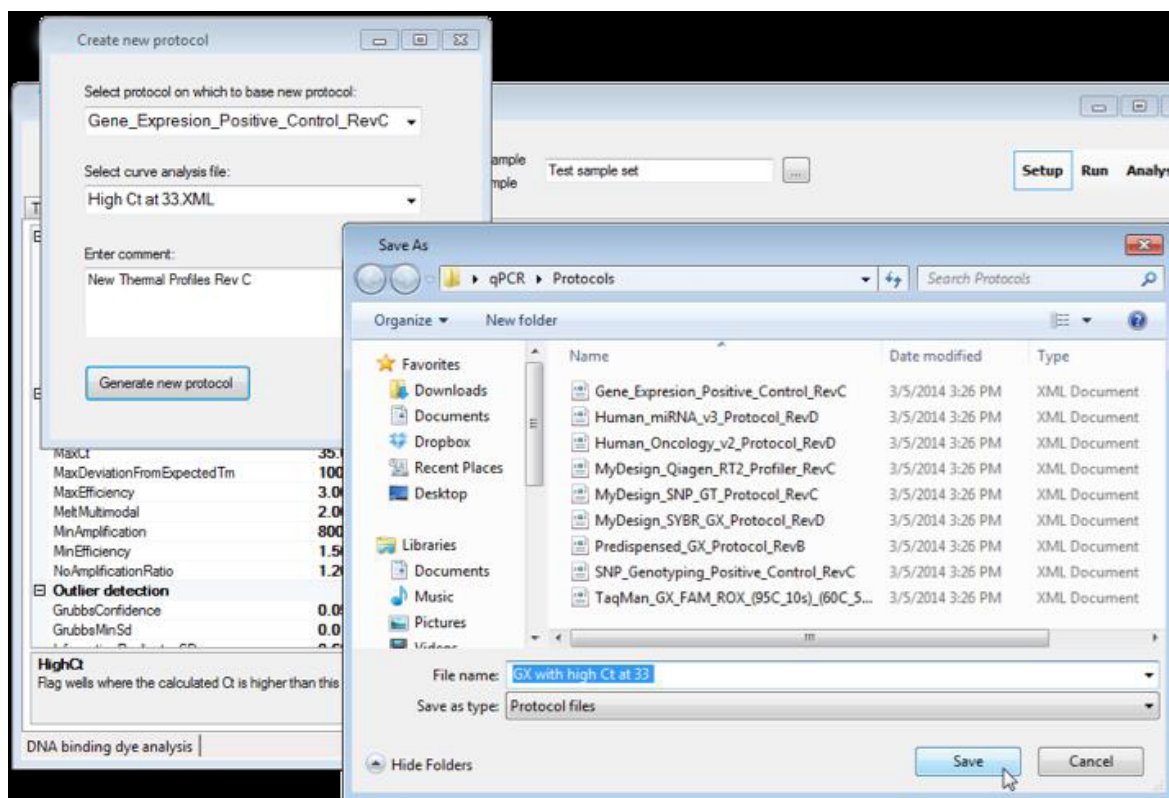

Figure 18. Saving your modified protocol.
- f. Click the [Generate new protocol] button and save the modified protocol file with a logical name (Figure 18).